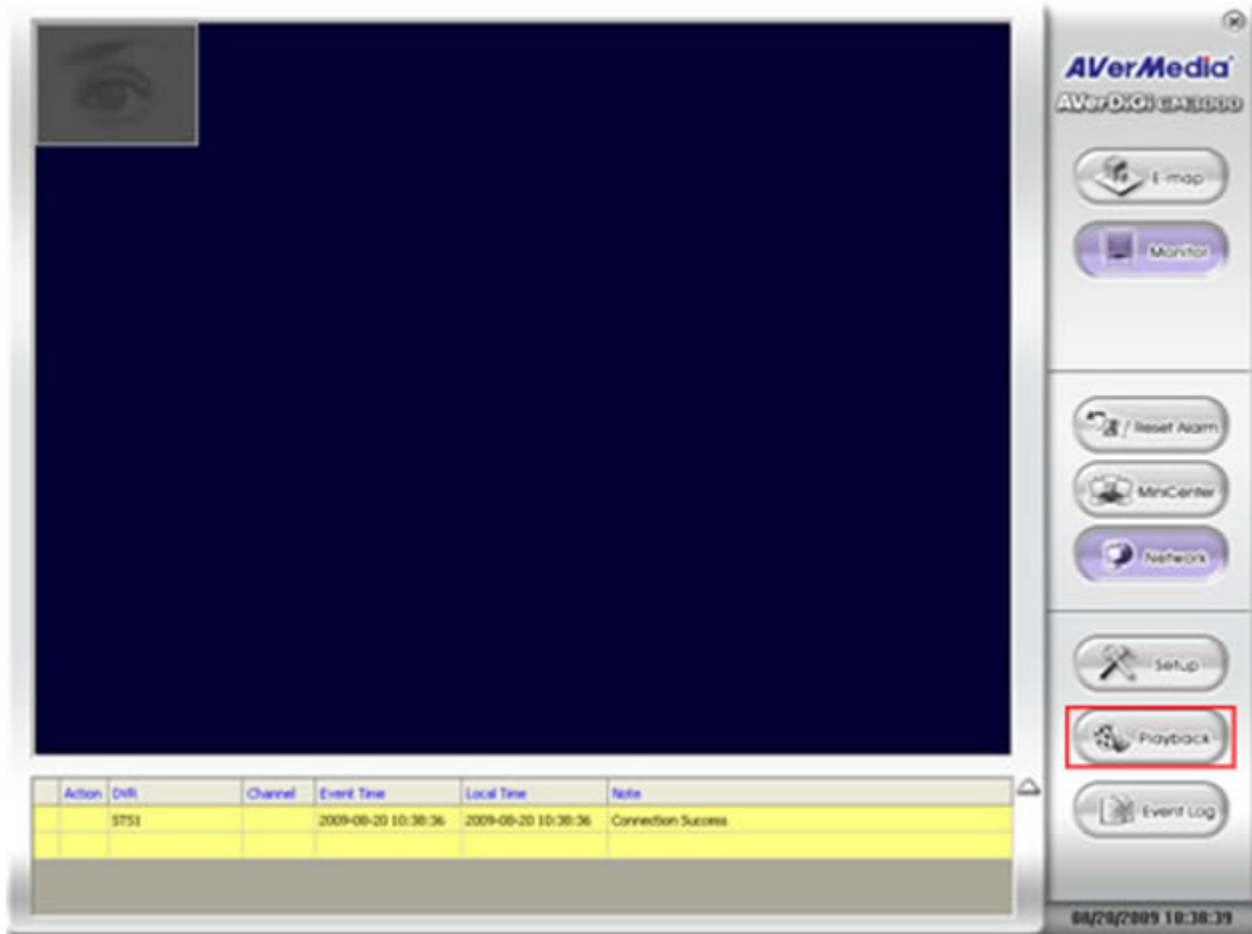

Figure 144. AAR - DVR Software
- Next click the [PLAYBACK] button on the bottom right of the screen (Figure 144).